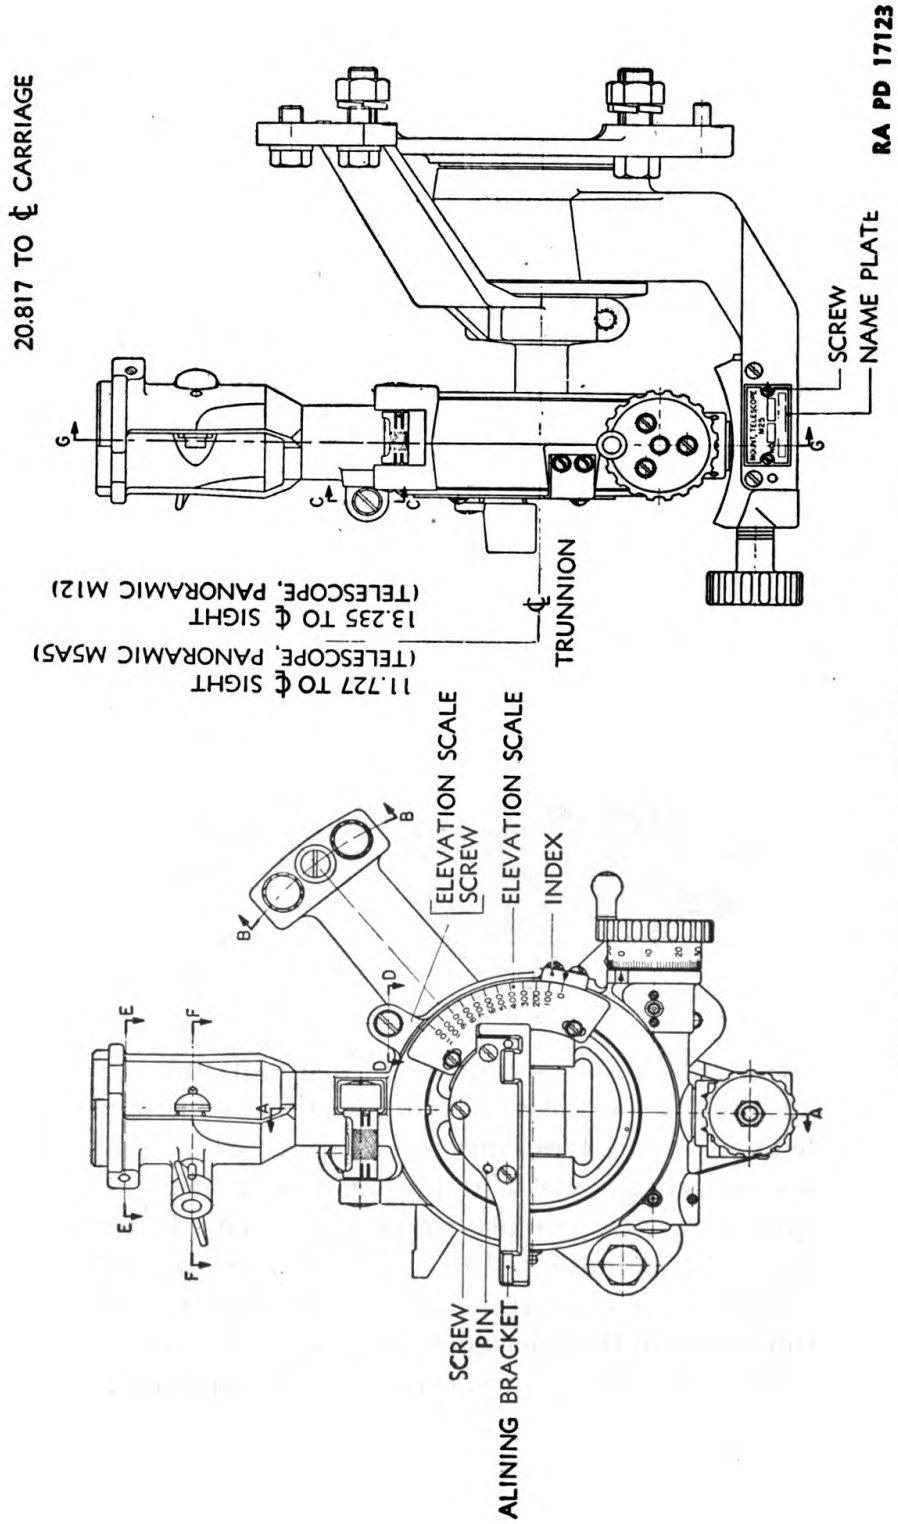

FIGURE 3.—Telescope mount M25—assembled views.
d. The telescope socket is pinned to the upper part of the telescope mount body assembly (fig. 1). This socket has accurately machined surfaces for locating the panoramic telescope. The telescope retaining shaft with torsion spring, located on the upper part of the socket, holds the telescope in position. Two tangent adjusting screws with locking screw make possible a small lateral adjustment for the telescope. In the lower part of the socket is a cylindrical hole for the collar of the panoramic telescope. Figures 3, 4, and 5 are assembled and sectioned views of the telescope mount.